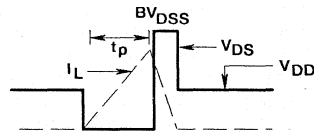

FIGURE 15. UNCLAMPED ENERGY WAVEFORMS
4. $V_{DD} = 10\text{V}$, starting $T_J = +25^\circ\text{C}$, $L = 170\mu\text{H}$, $R_{GS} = 50\Omega$, $I_{PEAK} = 40\text{A}$. See Figure 15.